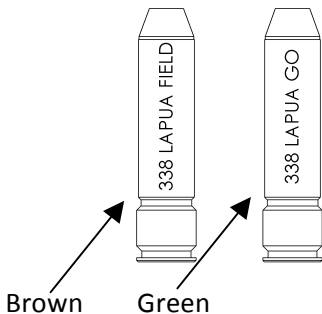
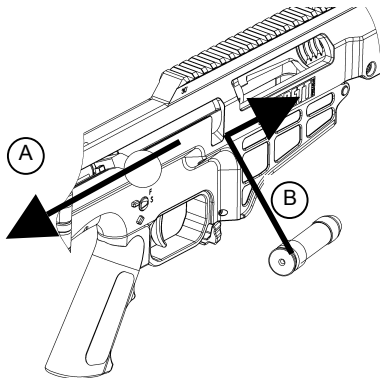

Figure 17.
Figure 18, Steps A and B.
2. Pull bolt handle backward into the open position (*Figure 18 Step A.*) and insert the Go Gauge (*Figure 17.*) into the chamber. (*Figure 18, step B.*)
6. Insert the Field Gage (*Figure 17.*) and GENTLY slide the bolt forward and down until it stops.